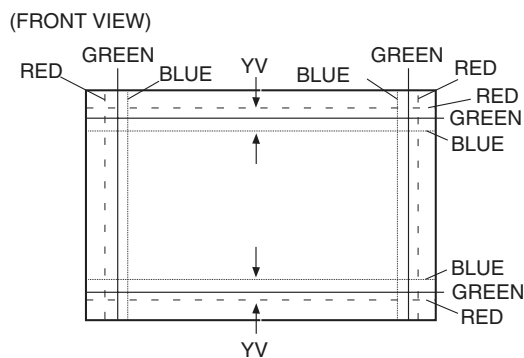

Fig. 6
2. Move the deflection yoke left to right to overlap the lines in the periphery, and match the Yv. (Fig. 6)